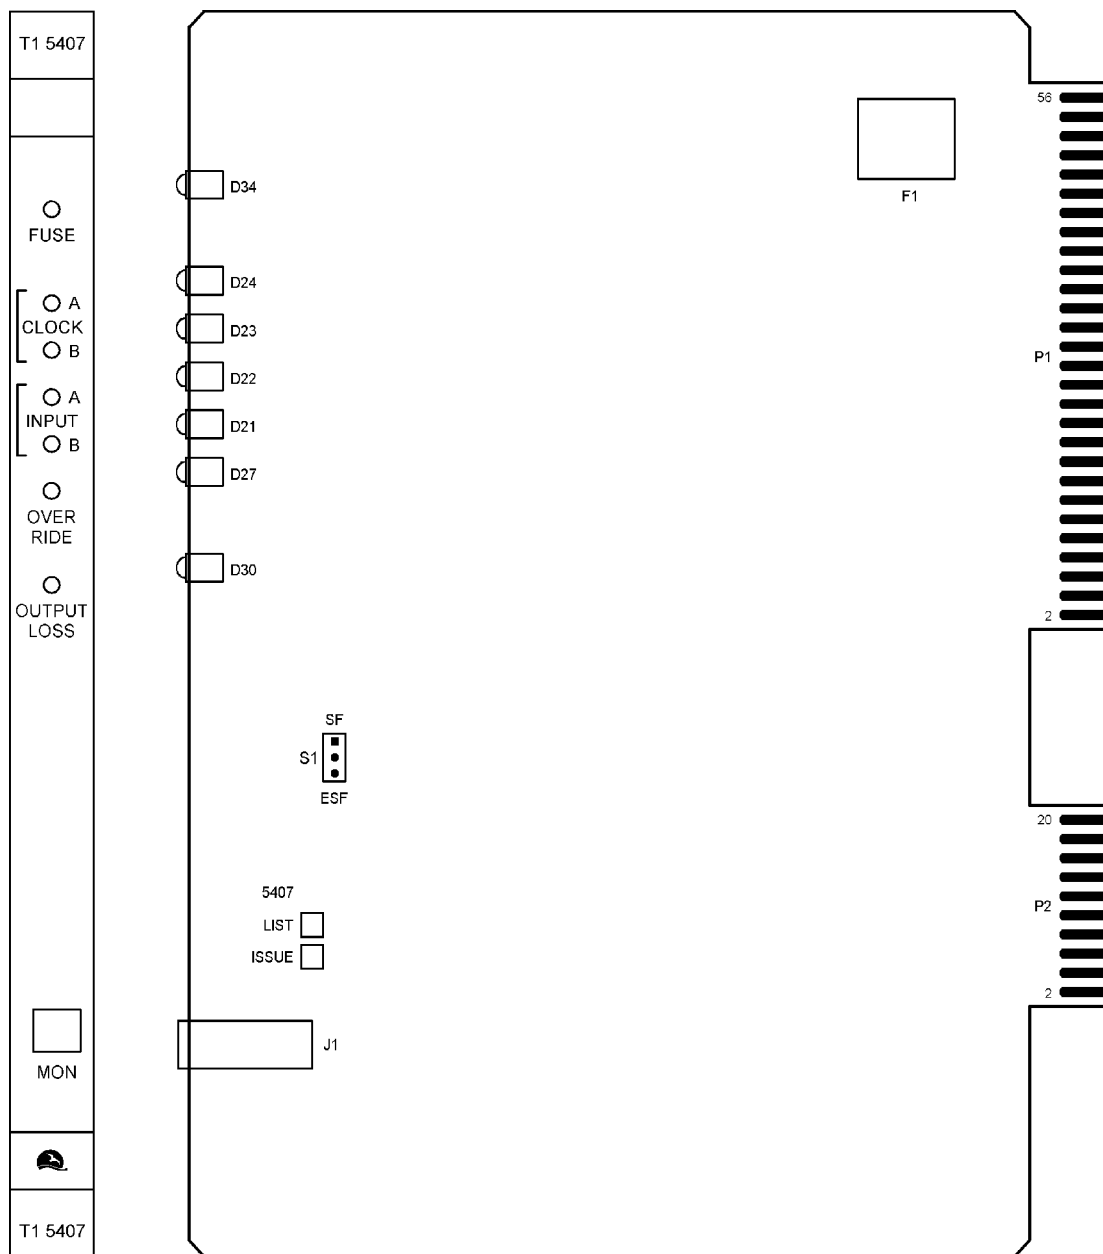

Figure 3-8. Model 5407 DS1 Output Driver Card with Front Panel
- 3.371 For switch location and front panel of the Model 5407, refer to Figure 3-8.